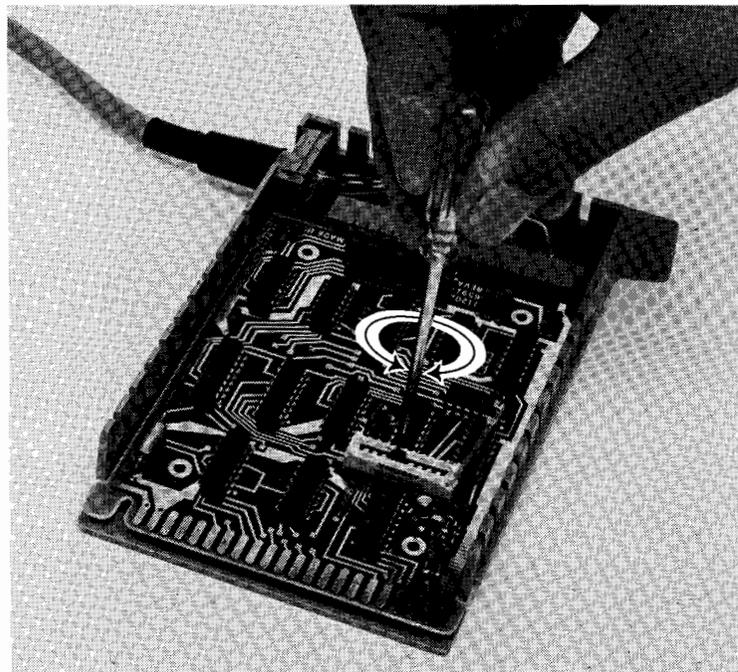

Figure 3. Setting the Printer Select Code
3. Locate the Select Code Switch (see Figure 3). Raise the hinged cover on the switch. Using a small, flat-blade screwdriver; *carefully rotate* the selector tab until it is positioned at any desired select code number from 1 to 9 (numbers are printed on the side and on the top cover of the switch). Before closing the cover, be sure the slot in the selector tab is positioned perpendicular to the length of the switch.